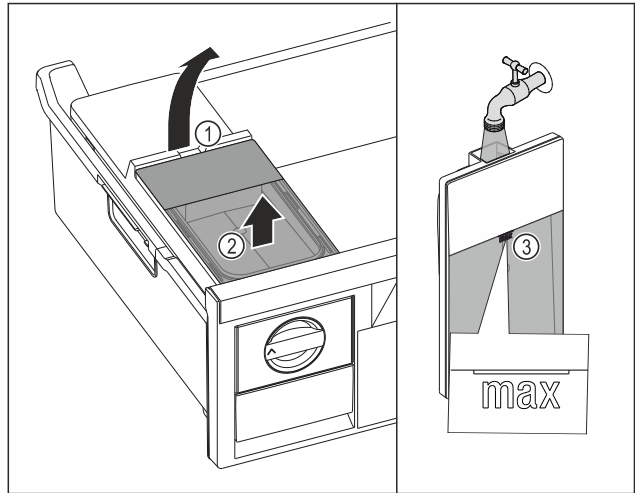

Fig. 103
- Lift the water tank at the recess Fig. 103 (1).
- Remove the water tank by lifting it upwards. Fig. 103 (2)
- Fill the water tank with drinking water up to the mark Fig. 103 (3).